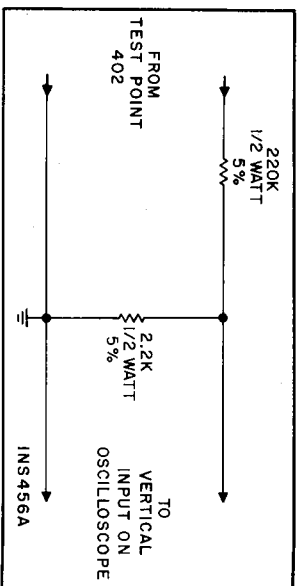

Figure 8. Voltage Divider Probe.
- (2) Connect DC VTVM to Test Point 403 (pin 4G on AM/FM IF, MPX board).
- (3) Adjust cores of Z401 and Z402 (on AM/FM IF, MPX board) for maximum reading on DC VTVM (2.5 to 4 VDC).
- (4) Connect output of audio generator, set for 1 kHz, to the external modulation input of MPX generator and to external sync input of an oscilloscope. Adjust audio generator level for composite signal  $\pm 75$  kHz deviation (10% pilot, 90% audio). Modulate right channel only.
- (5) Connect AC VTVM to Left RC DR OUT jack. Connect scope through voltage divider probe (see Figure 8) to Test Point 402 (pin 4K on AM/FM IF, MPX board).